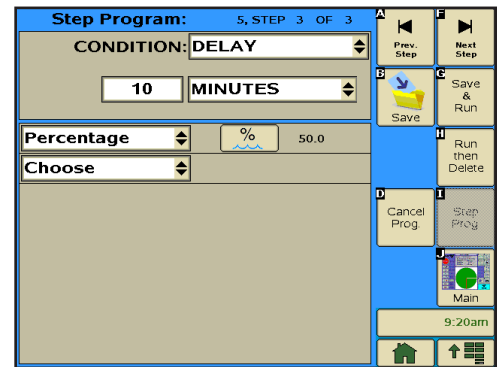

Figure 135-2
11. Program the delay time condition for this step. Refer to Figure 135-2.